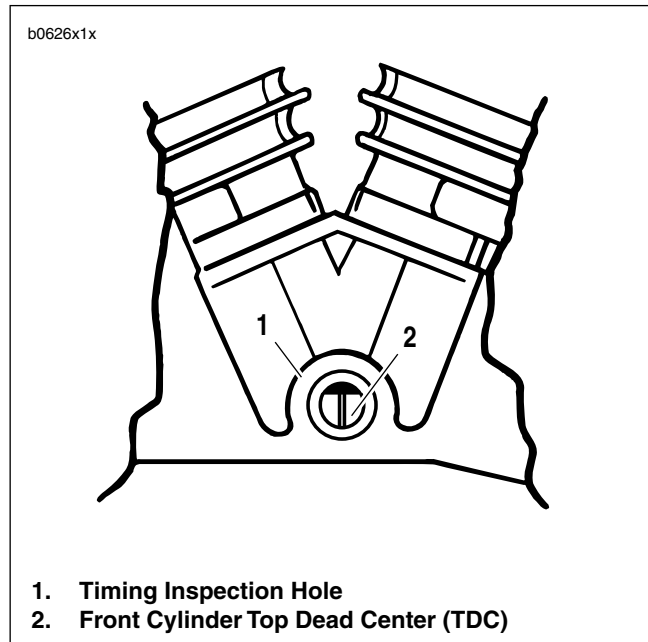

Figure 1-47. Timing Marks
- b. See Figure 1-47. Rotate rear wheel until TDC mark (2) is centered in timing inspection hole.